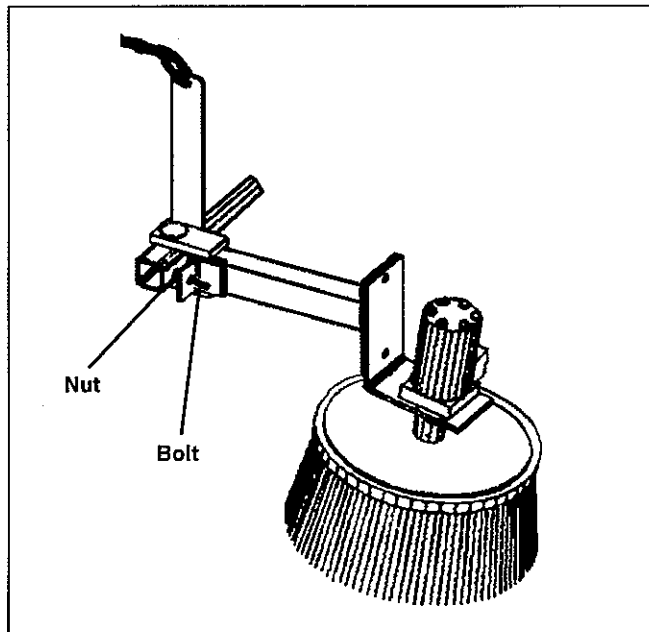

figure 25
1. Loosen the nut (figure 25).
2. Adjust the bolt in for more swing or out for less (figure 25).